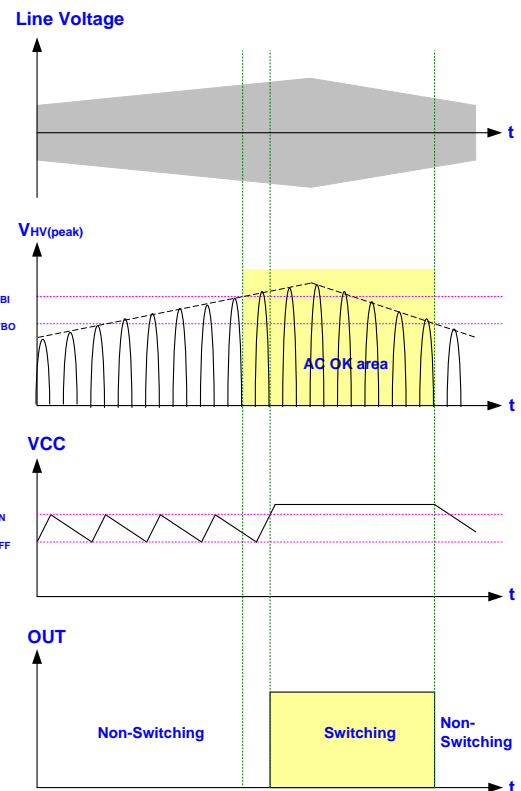

Fig. 11
The LD5763K3 features burn-in/out function on HV pin. As the built-in comparator detects the half wave rectify line voltage condition, it will shut off the controller to prevent from any damage. Fig. 11 shows the operation. When  $V_{HV} < HVBO$ , the gate output will remain off even when the VCC already reaches UVLO(ON). It therefore forces the VCC hiccup between UVLO(ON) and UVLO(OFF). Unless the line voltage rises over HVBI  $V_{AC}$ , the gate output will not start switching even as the next UVLO(ON) is tripped. A hysteresis is implemented to prevent the false-triggering during turn-on and turn-off.